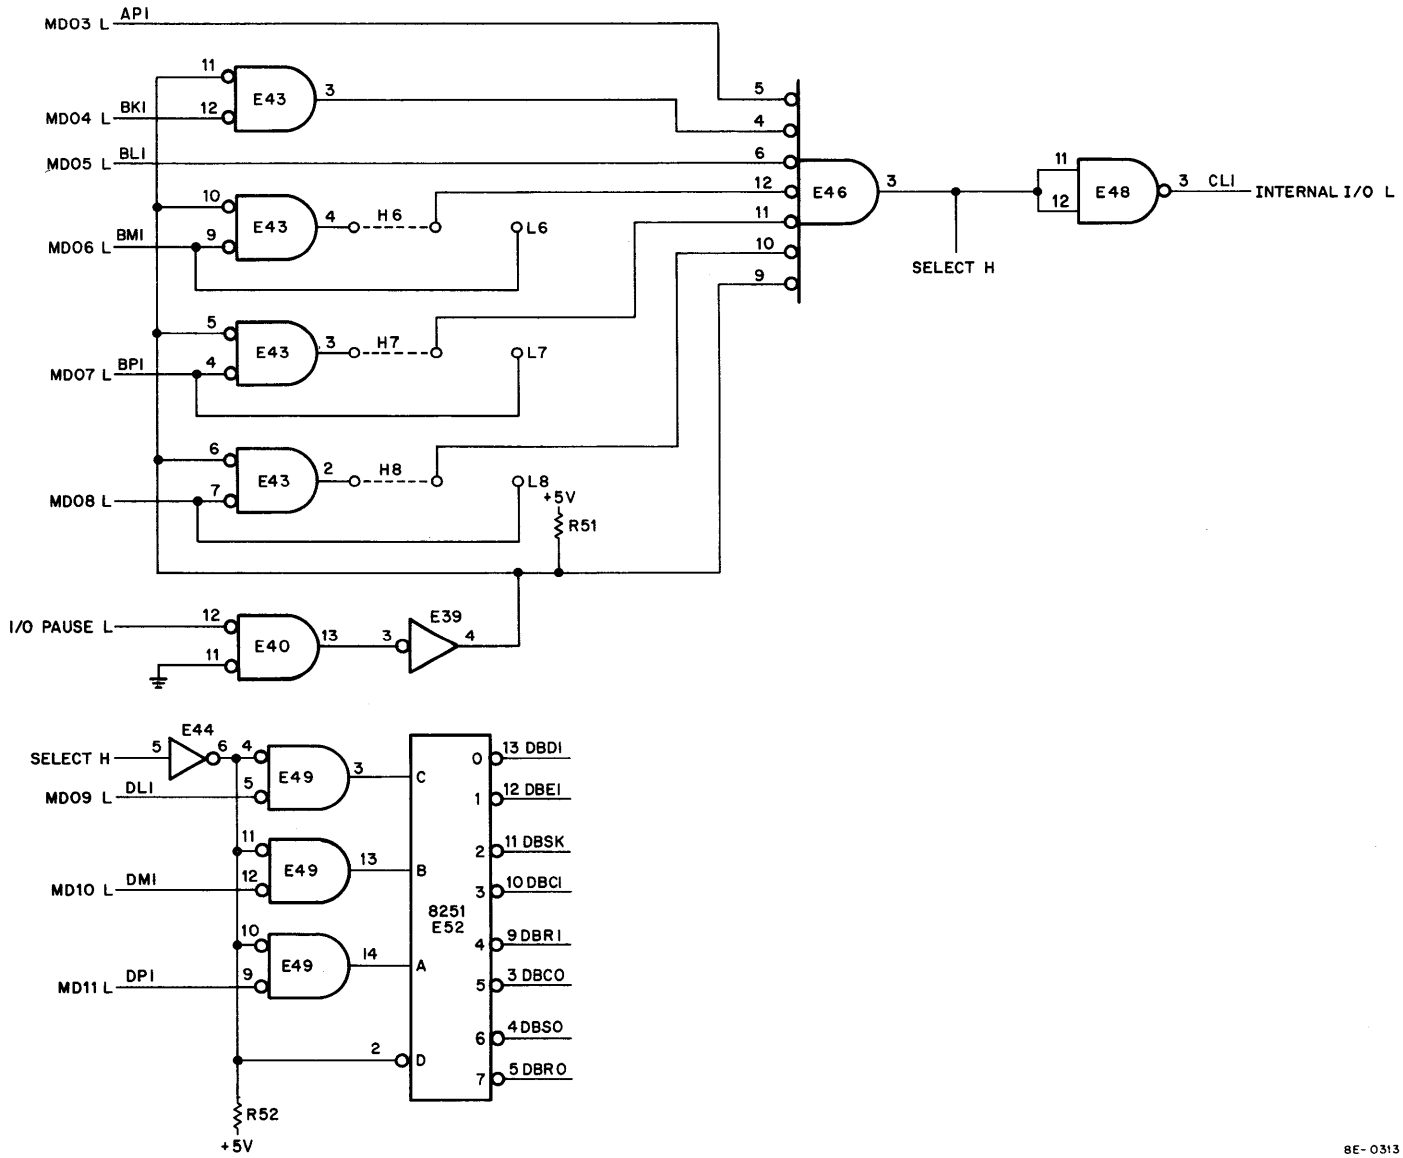

Figure 4-46 Device Select and Operation Decoder Logic
**4.5.2.1 Device Select and Operation Decoder** – The Device Select logic in Figure 4-46 will have bits MD3L–MD11 and I/O PAUSE as inputs. I/O PAUSE will be generated 150 ns after TP1 of any IOT cycle. In the Buffered Digital I/O, it will enable the AND gates to allow decoding of MD3L–MD8L. When these gates are enabled and a 6X octal code is present, a SELECT H and INTERNAL I/O are generated. SELECT H will be used to enable the Operation Decoder.
The Input Register can be cleared by 1's from the AC when a DBCI instruction is performed. To clear a flip-flop, there must be a 1 input to an AND which is enabled by the DBCI instruction (see E3 Figure 4-46). Inverter E1, which has its output tied to E3, will receive B00 H from the Data Bus. The contents of the AC (see Figure 4-48) will be applied to AND gates (see E6 in Figure 4-48); the gates will be enabled by SELECT H which is present on any instruction to the DR8-EA. The outputs of the AND gates (B00 H–B11 H) will be applied to the gates enabled by the DBCI instruction (see Figure 4-48). The DBCI and the output of E1 will enable E3 and be applied to E2. The output of E2 is tied to the clear side of the flip-flop; a 1 will clear this bit. The Input Register will also be cleared if CLEAR or INITIALIZE are applied to E2.